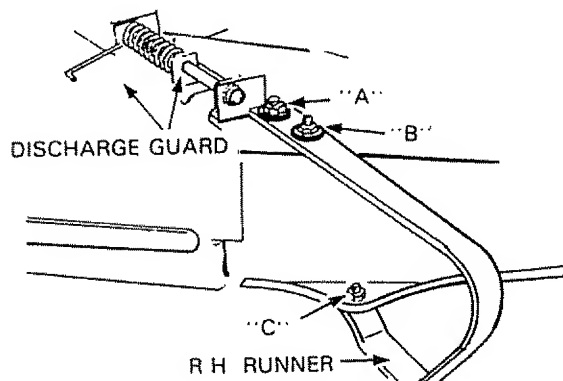

FIGURE 6
12. Using a 1/2" wrench remove hardware "A", "B" and "C" (Fig. 6) securing R.H. runner to mower housing. Hardware may be discarded.